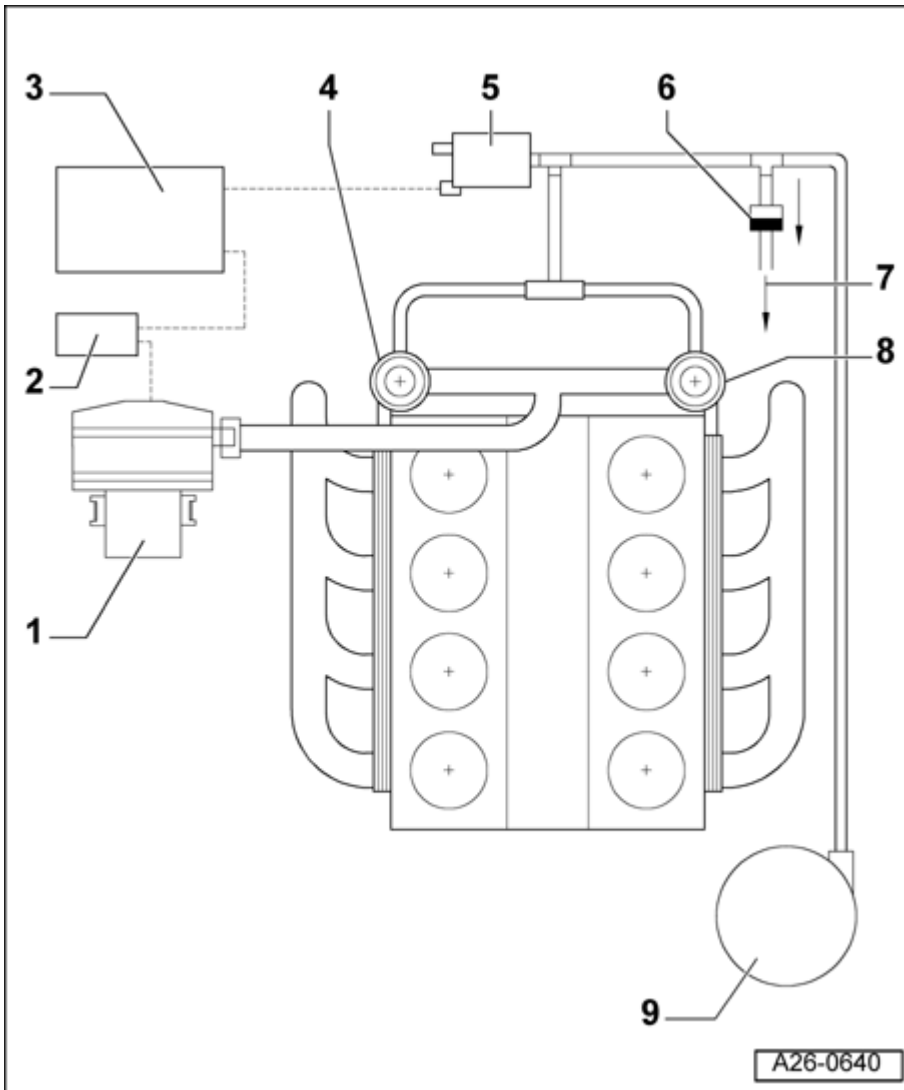

Fig. 536: Secondary Air Injection (AIR), Component Overview
- Installed location: As shown in **Fig. 536**, - **arrow** - points in direction of flow